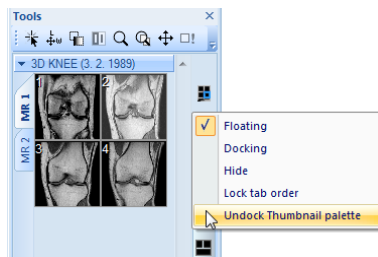

Figure 26 – Undock thumbnail bar from Tools panel by context menu
2. Select the **Undock thumbnail** item in the displayed context menu (see Figure 26).